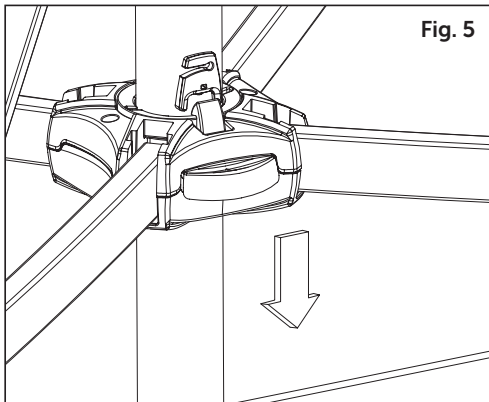

Fig. 5
1. Pull down the latch gently to release (Fig. 5).